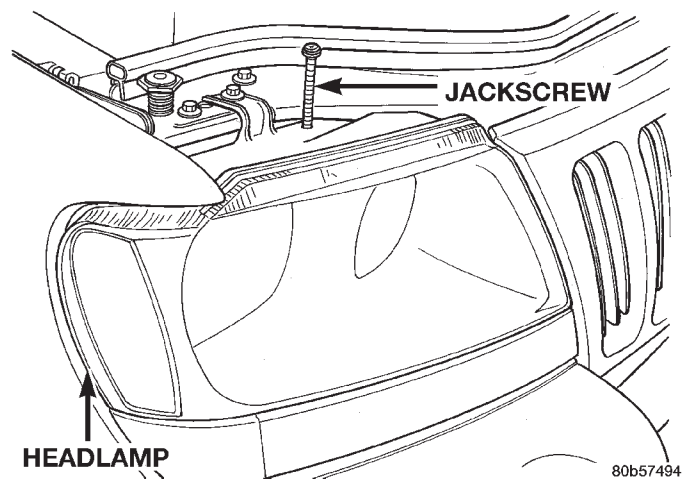

Fig. 2 Headlamp Retaining Fastener
- (1) Open the hood and remove the headlamp retaining jackscrew (Fig. 2).